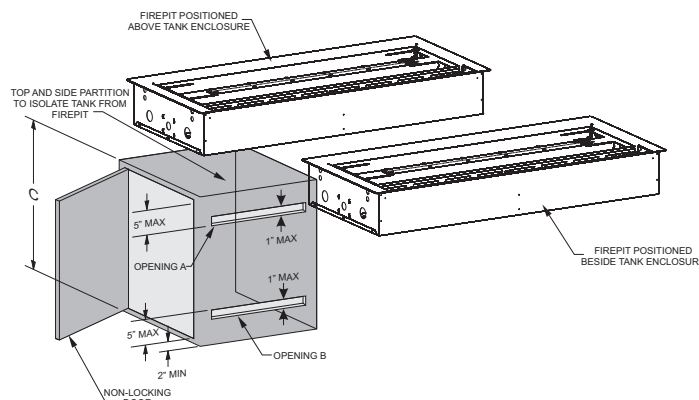

Figure 19
5. If installation includes LP tank storage under the firepit, use the optional BRB Vent Kit or refer to the LP tank storage requirements on pages 15 and 16. **See Figure 19.**